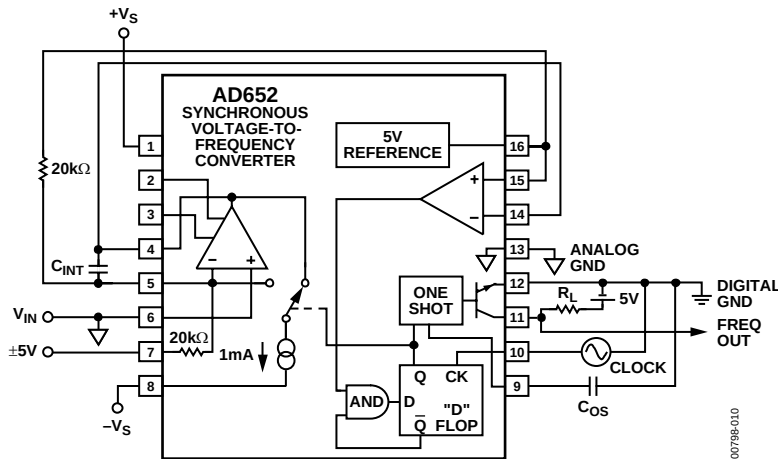

Figure 10. Bipolar Offset
A bipolar input voltage of  $\pm 5\text{ V}$  can be accommodated by injecting a  $250\text{ }\mu\text{A}$  current into Pin 5 (see Figure 10). A  $-5\text{ V}$  signal provides a zero sum current at the integrator summing junction, which results in a zero-output frequency; a  $+5\text{ V}$  signal provides a  $0.5\text{ mA}$  (full-scale) sum current, which results in the full-scale output frequency.
1. Use an external resistor for  $R_{OS}$  and the internal  $20\text{ k}\Omega$  resistor for  $R_{IN}$  (as shown in Figure 10).